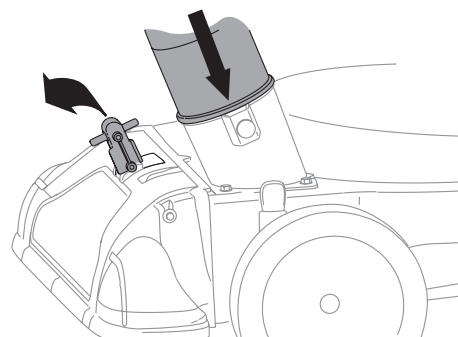

Figure 13
- Place nozzle/hose vac lever in the bottom position on the nozzle to redirect vacuum to the hose assembly. See Figure 13.
- The spring loaded pin must be in the second hole of the hose adapter to operate the hose assembly. See Figure 13.